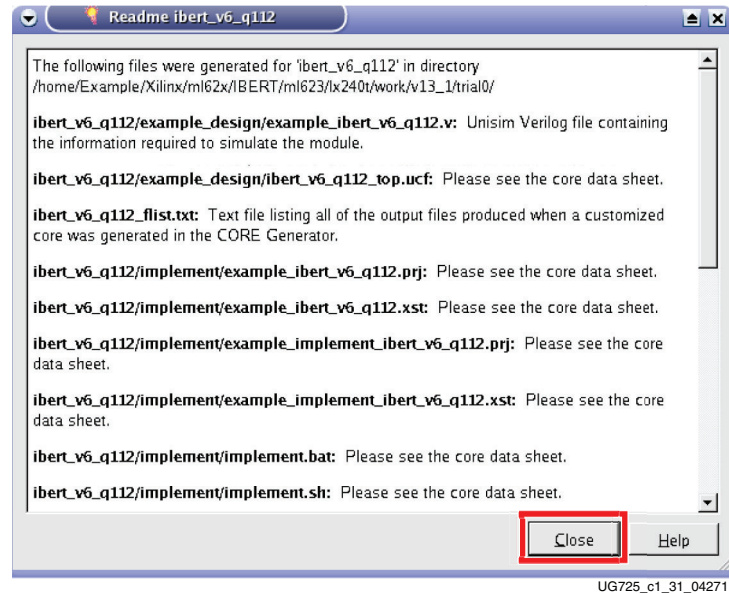

Figure 1-31: IBERT Core Readme
17. A readme window for the **ibert_v6_q112** core opens after core generation completes (Figure 1-31). Review the list of files created and click **Close** when finished. Close the Core Generator application as well.